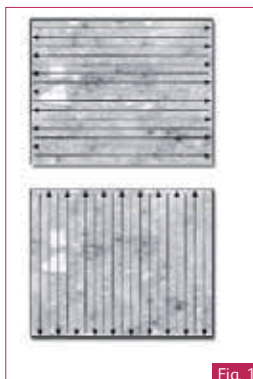

Fig. 1
- 16.6 Keep the sander moving slowly in circles at all times, first in an East – West direction then North – South (Fig. 1). Ensure that you use proper equipment, like a random orbital sander with a flat pad. For straight surfaces always use a hard pad. Soft or super-soft pads are recommended for curved surfaces.